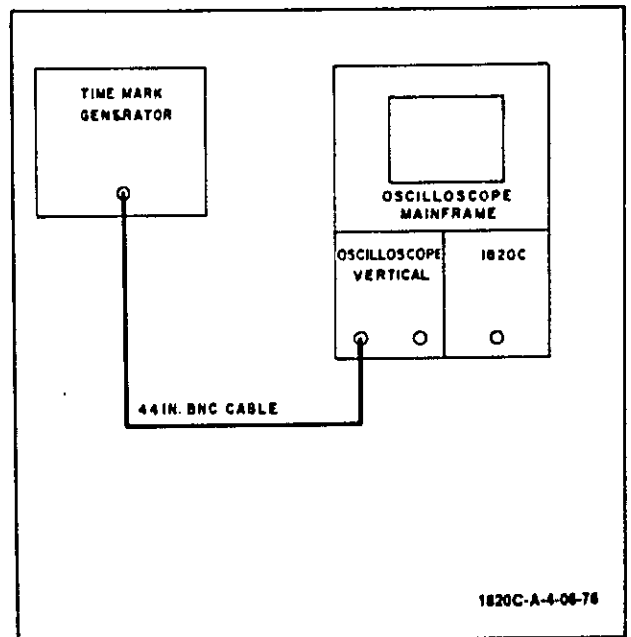

Figure 5-5. Sweep Calibration Test Setup
5-52. EQUIPMENT. See figure 5-5 for equipment required.
- a. Connect equipment as shown in figure 5-5.
5-57. EQUIPMENT. See figure 5-5 for equipment required.
5-68. REFERENCE. table 5-1, figure 5-5, figure 5-7, and schematic 3.
5-70. EQUIPMENT. See figure 5-5 for equipment required.